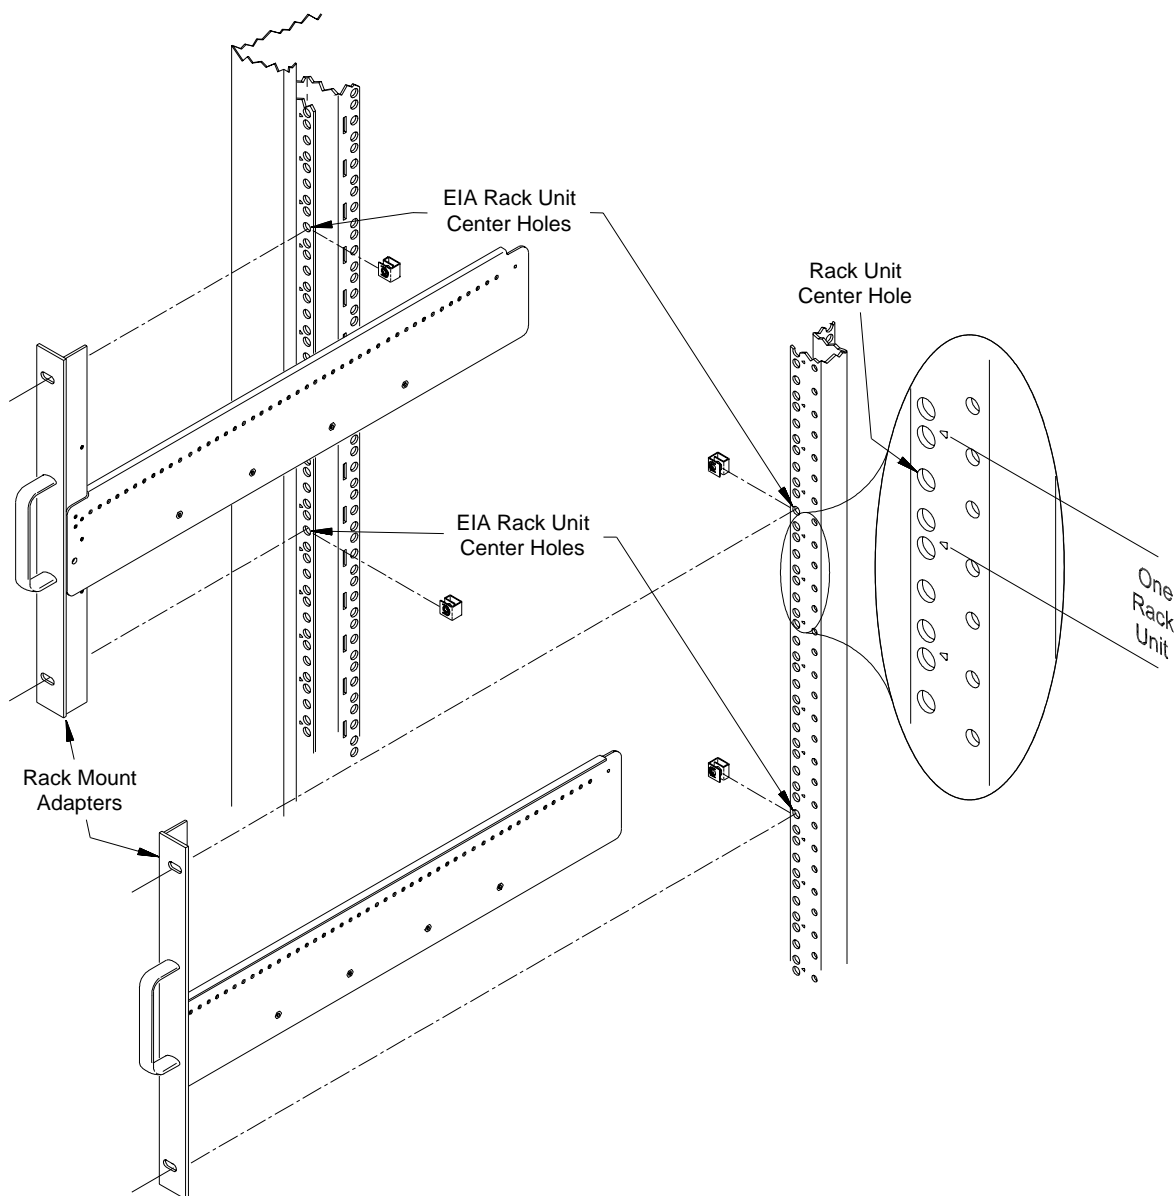

Figure 2-6. Positioning the Mainframe in the Rack.
2. Using the rack mount adapters as templates, position the adapters on the rack's vertical rails where the mainframe is to be positioned. Be sure to align the adapter holes over center holes on the vertical rail (Figure 2-6).